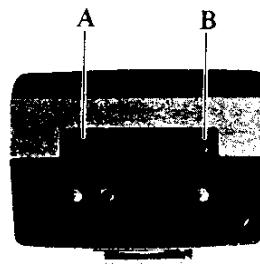

Fig. 12
- (1) Remove screws A and B in Fig. 12, using a Phillips screwdriver of the proper size. Carefully remove the back panel of the transceiver.